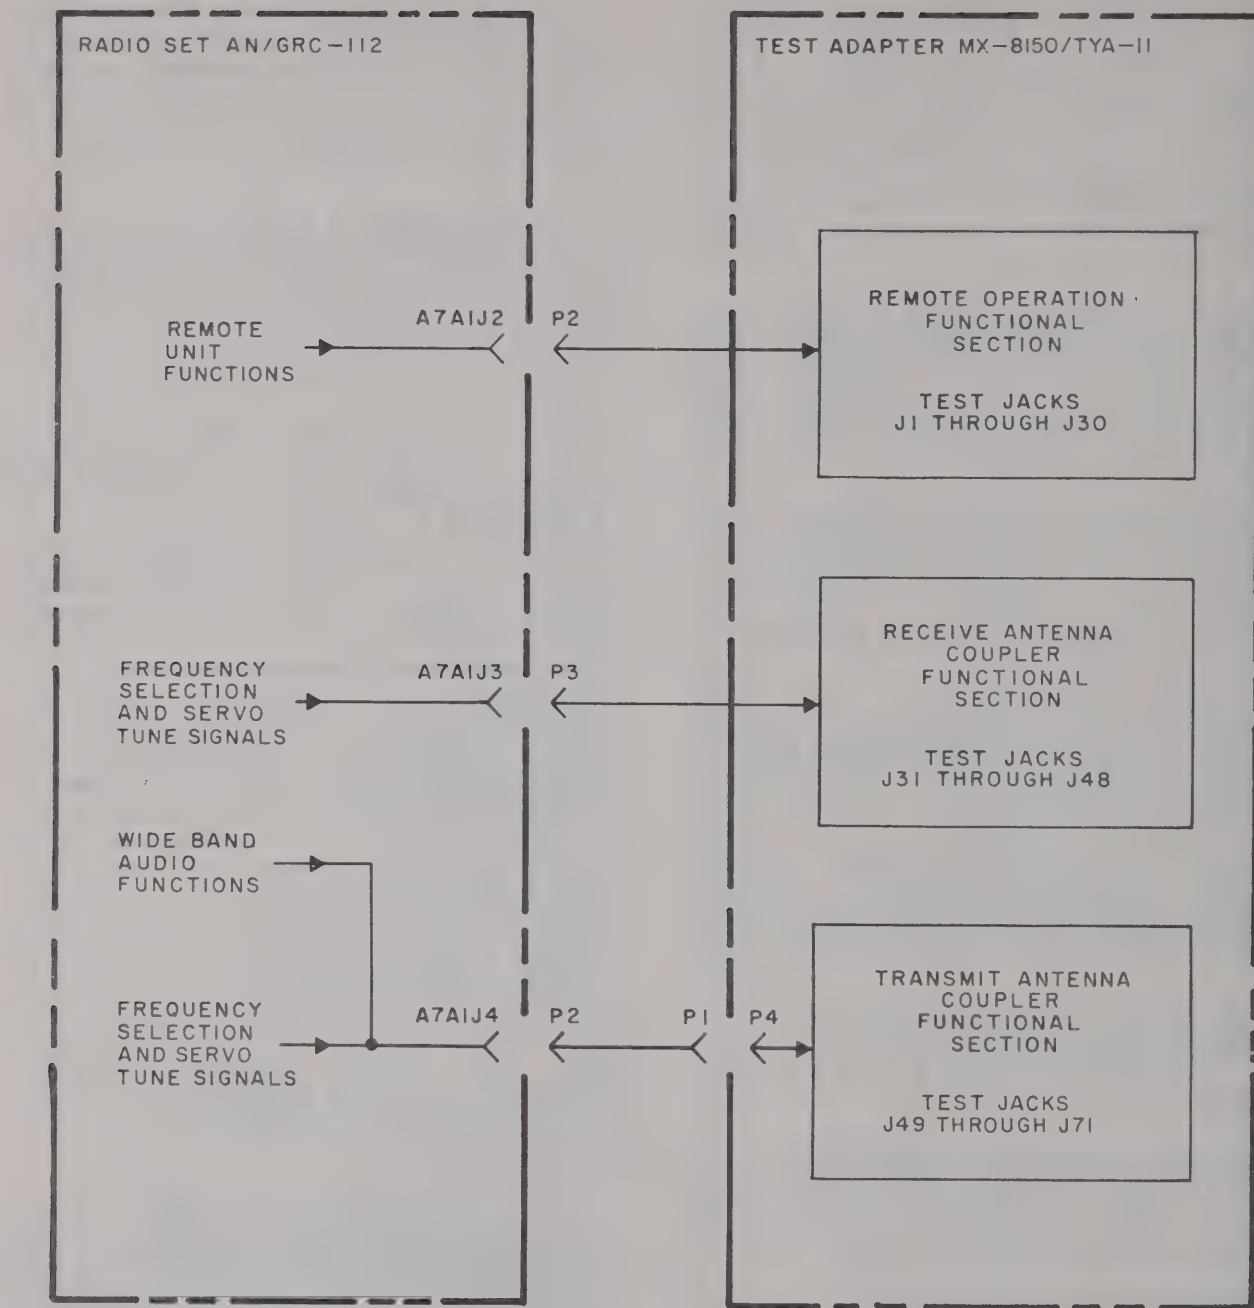

Figure 4-1. Test Adapter, MX-8150/TYA-11, Overall Block Diagram
4-1. LOGICAL TROUBLESHOOTING. This section presents troubleshooting information for Communications Test Kit, MK-1102/TYA-11, Communications Test Kit, MK-1104/TYA-11, and Test Set Coupler, MX-8154/TYA-11. The contents of this section include: equipment overall functional description and overall block diagrams; overall functional description of each functional section, together with its servicing block diagram, and applicable test data; and detailed functional description, simplified schematic diagram, servicing block diagram information, and applicable test data for individual portions of functional sections. Information contained in NAVSHIPS 0967-000-0130 or NAVSHIPS 0967-000-0120 that is applicable to this chapter is referenced rather than repeated. Overall block diagrams (Figures 4-1 through 4-8) appear where referenced, and all servicing block diagrams (Figures 4-9 through 4-28) appear at the end of the section. The objective of the logical troubleshooting method is to develop the technician's ability to decide what checks should be performed and where to make them. The information presented in the manual should not act as a crutch for the technician, but as a maintenance tool. When adequate historical data is not available, troubleshooting procedures should be based on the following six logical steps.
b. TEST ADAPTER, MX-8150/TYA-11, OVERALL FUNCTIONAL DESCRIPTION. The overall troubleshooting data for Test Adapter, MX-8150/TYA-11, consists of a functional description. The functional description is based on overall signal flow through the Test Adapter during the testing of Radio Set AN/GRC-112. The Test Adapter (see Figure 4-1) consists of the remote operation functional section, receive antenna coupler functional section, and the transmit antenna coupler functional section. The remote operation functional section extends the remote audio, data, indicator, and keyline functions from connector A7A1J2 of Radio Set, AN/GRC-112, to test jacks J1 through J30 on the Test Adapter front panel. The receive antenna coupler functional section extends the remote frequency tuning servo functions from connector A7A1J3 of Radio Set, AN/GRC-112, to test jacks J31 through J48 on the Test Adapter front panel. The transmit antenna coupler functional section extends the remote frequency tuning servo and wide band audio functions from connector A7A1J4 of Radio Set, AN/GRC-112, to test jacks J49 through J71 on the Test Adapter front panel.